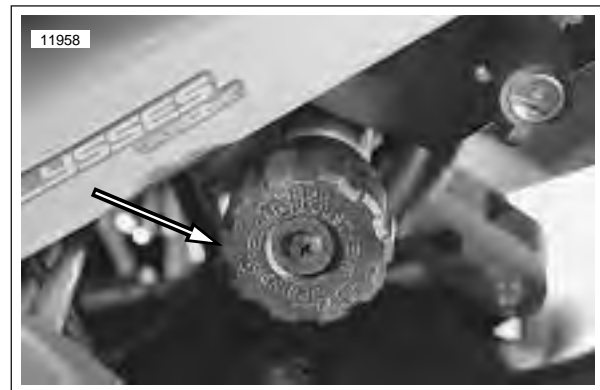

Figure 2-94. Rear Shock Absorber Preload Adjuster Knob
- See Figure 2-94. Verify preload adjuster knob is facing out.
5. Install rear shock reservoir clamp (7) and fastener (6) and tighten clamp fastener to 80-88 **in-lbs** (9.0-9.9 Nm).